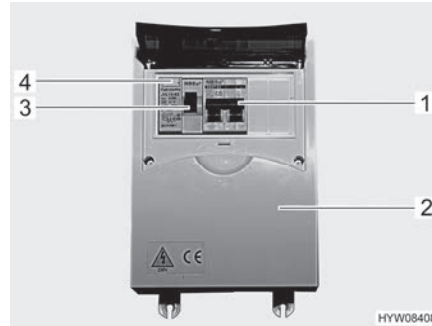

Fig. 101 230 V fuse box with safety cut-out and FI-switch
- Switch off the safety cut-out (Fig. 101,1) in the fuse box (Fig. 101,2).
- When the vehicle is connected to the 230 V supply, press the test button (Fig. 101,4) of the fault current protection switch (FI-switch) (Fig. 101,3) in the fuse box (Fig. 101,2). The fault current protection switch must trip.
- Switch the fault current protection switch (Fig. 101,3) back on again.